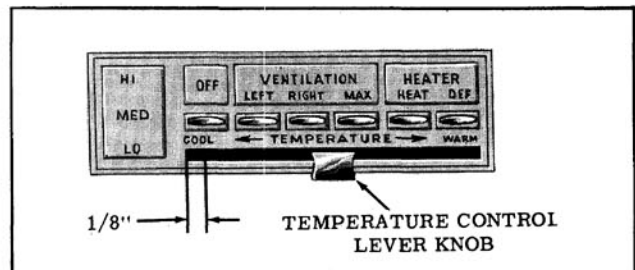

Fig. 14-6 Temperature Control Adjustment
5. Adjust control cable until the temperature lever is $1/8$ " from the extreme left position. (Fig. 14-6)